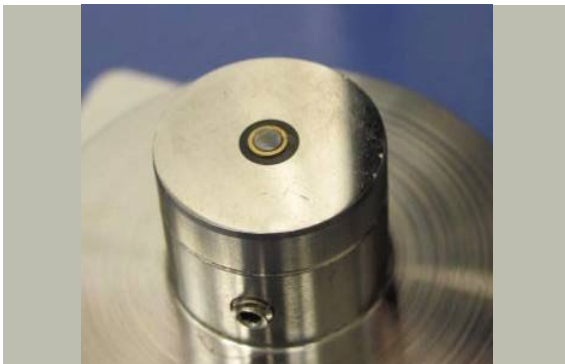

Figure 7. Place the specimen on the glass window platen.
1. Transfer the specimen onto the Fischione Model 200 Dimpling Grinder glass window platen (Figure 7).